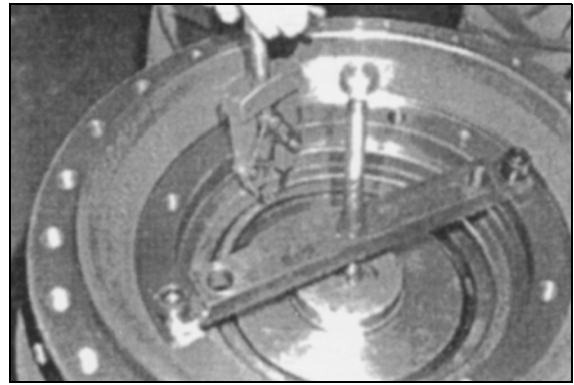

Figure 121
30. Install retaining ring using retaining ring pliers. Figure 121.